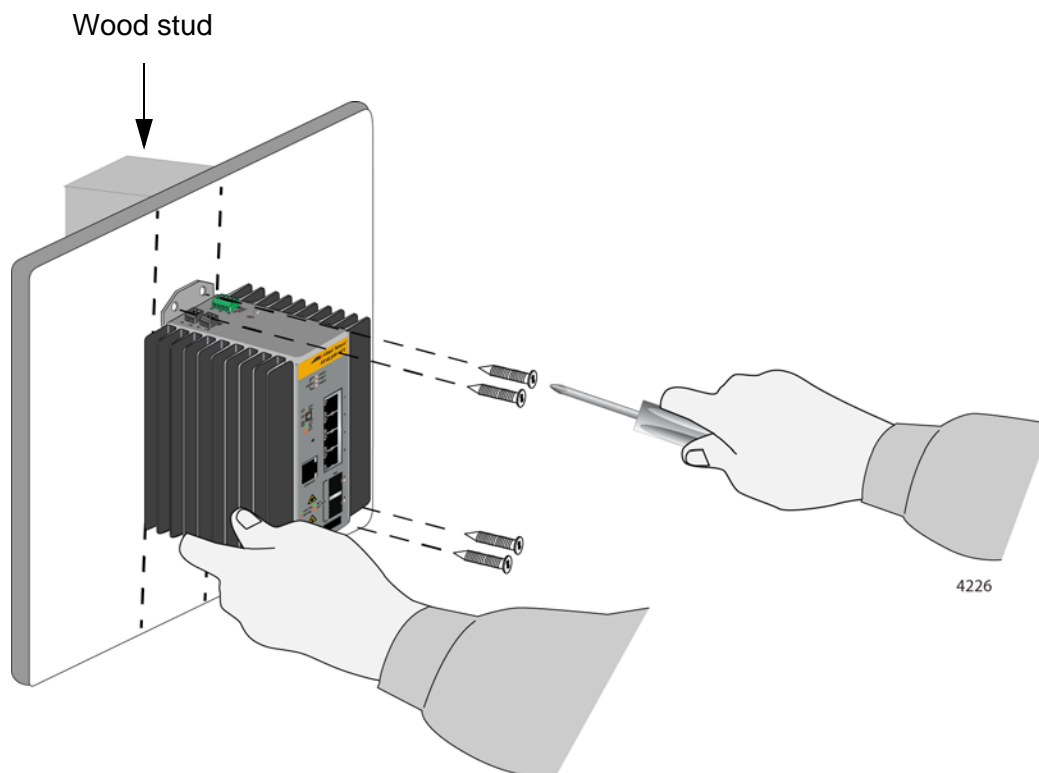

Figure 22. Attaching the Switch to the Wall
3. Hold the switch on the wall and secure it with four screws (not provided). Refer to Figure 22.
- ❑ The switch must be oriented as shown in Figure 22. Do not install the switch horizontally or upside-down.